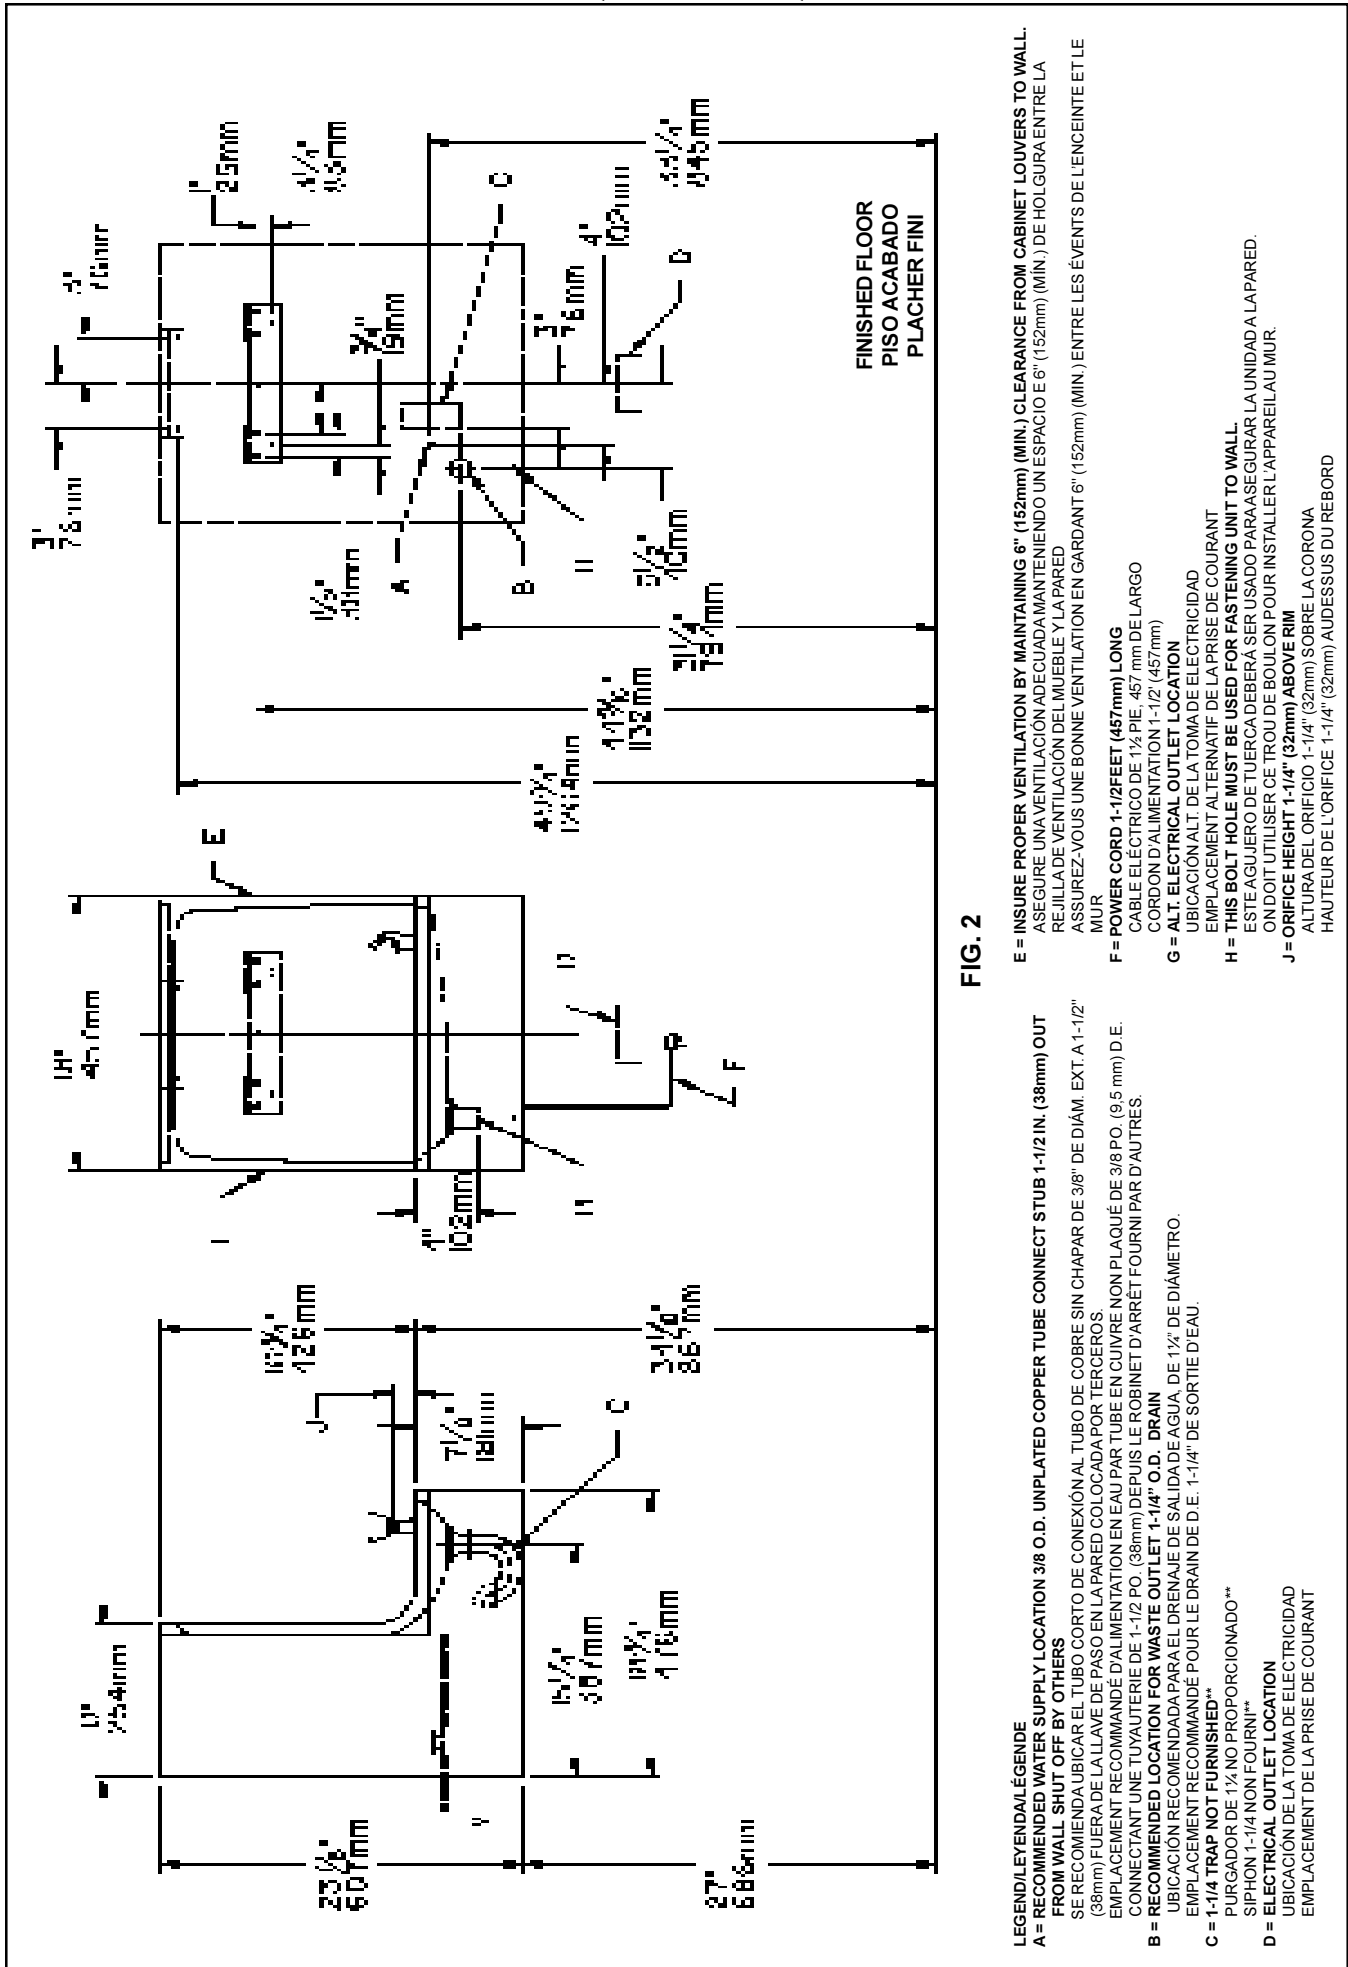

FIG. 2
- 1) Remove hanger bracket fastened to back of cooler by removing one (1) screw.
- 2) Mount the hanger bracket and trap as shown in Figure 2.
- 4) Hang the cooler on the hanger bracket. Be certain the hanger bracket is engaged properly in the slots on the cooler back as shown in Figure 2.
- 5) Loosen the two (2) screws holding the lower front panel at the bottom of cooler base and two (2) screws at the top. Remove the front panel and set aside.